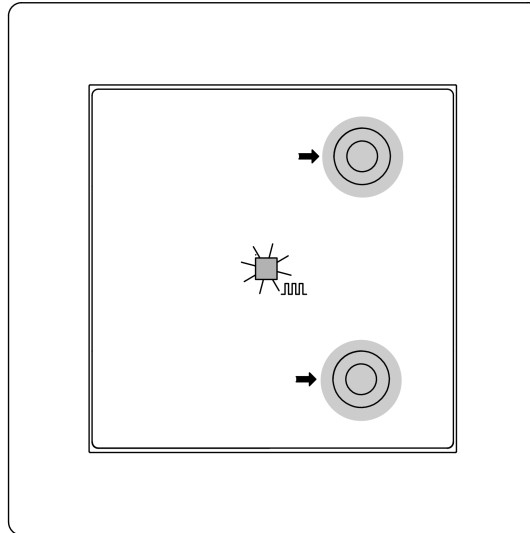
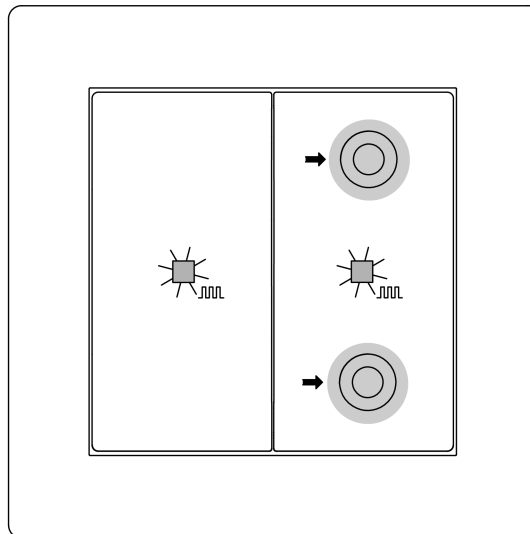

Figure 5: Activating programming mode (1-channel)
Figure 6: Activating programming mode (2-channel)
Programming the physical address and application program, 1-channel (Figure 5) and 2-channel (Figure 6)
- Activate programming mode: Press the top right button and bottom right button simultaneously and hold for longer than 4 seconds (Figure 5).